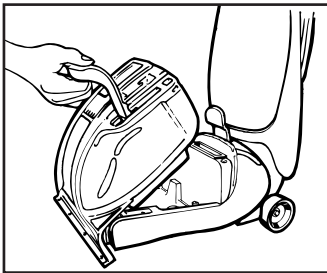

Fig.7/6
- Push handle down until it latches (Fig.7/7).